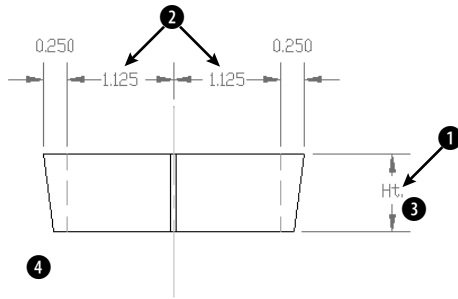

**Figure 14-37:** A dimensioned cross-section of a valve part.
2. Save the file as ab14-09.dwg in your AutoCAD Bible folder. This is a cross-section of a valve part, as shown in Figure 14-37. If the Dimension toolbar isn't visible, right-click any toolbar and choose Dimension.
3. To replace the dimension marked Ht., choose **Modify** ⇨ **Object** ⇨ **Text** ⇨ **Edit**. At the **Select an annotation object or [Undo]:** prompt, choose the dimension at ① in Figure 14-37. The **In-Place Text Editor** opens with the text displayed. Select the current text and type <>. Click **OK**. The command automatically creates the original measured dimension. Press **Enter** to end the command.
4. If you are using AutoCAD LT, skip to Step 5. Select the two dimensions marked ② in Figure 14-37. Also select the cyan centerline and the two green hidden lines. Choose **Quick Dimension** from the **Dimension** toolbar. At the first prompt, right-click and choose **Edit**. At the **Indicate dimension point to remove**, or **[Add/eXit] <eXit>:** prompt, choose the two edit points (each marked with an X) on the cyan centerline. Right-click and choose **Exit**. At the **Specify dimension line position**, or **[Continuous/Staggered/Baseline/Ordinate/Radius/Diameter/datumPoint/Edit/SeTtings] <Continuous>:** prompt, place the dimension line where it was previously. (You can use the outside arrows as a guide.)
5. Pick the dimension at ①. Press **Shift** and click the grip on the text and one of the dimension's grips to activate them. Click either of the grips and drag slightly to the left to place the dimension and its text closer to the object that you are dimensioning.